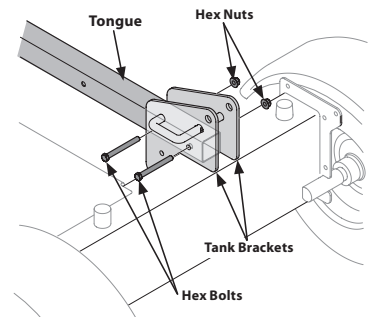

Figure 3
9. With the log splitter still secured to the bottom of the crate, remove two hex bolts and hex nuts from the tank bracket and remove the piece of wood inside the tank brackets. See Figure 3.
10. Align the holes in the tongue with the holes in the tank bracket and secure with the hardware just removed. See Figure 3.